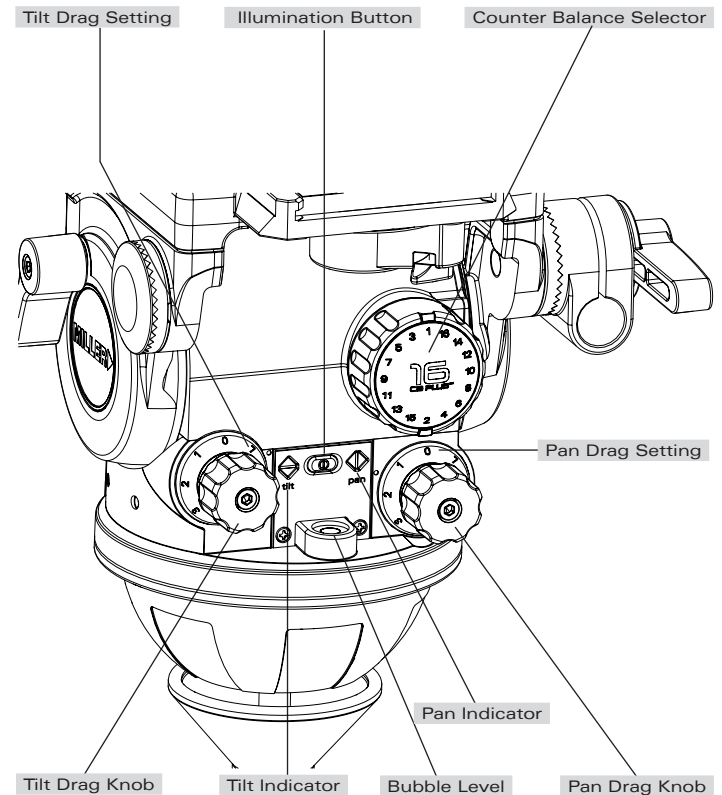

Fig. 5
- 2.6 Release the SLIDING PLATFORM LOCK and slide the SLIDING PLATFORM such that the camera's C of G is directly above the centre axis of the Fluid Head (fig. 5) and tighten the SLIDING PLATFORM LOCK (fig. 5). If this can not be achieved then reposition the CAMERA PLATE on the Camera or the QUICK RELEASE TRIPOD ADAPTOR – step 2.4. This will ensure that the system has maximum stability.